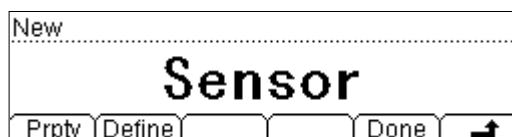

Figure 2-39 New interface
- Press to finish the parameter settings and return to the **New** interface (figure 2-39).
(3) Press **Done** (figure 2-39), it will appear **Save** and **Apply** options.